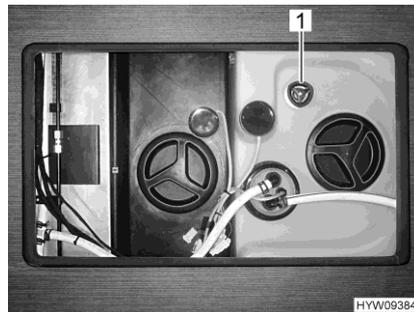

Fig. 194 Rotary handle (water tank)
- Turn the rotary handle (Fig. 194,1) on the water tank in a clockwise direction as far as it will go.
- Turn the rotary handle (Fig. 194,1) on the water tank in an anticlockwise direction up to the first catch. Excess water will drain away leaving approx. 20 litres in the tank.
- Turn the rotary handle (Fig. 194,1) on the water tank in an anticlockwise direction as far as possible beyond the resistance to fully open the drainage opening.